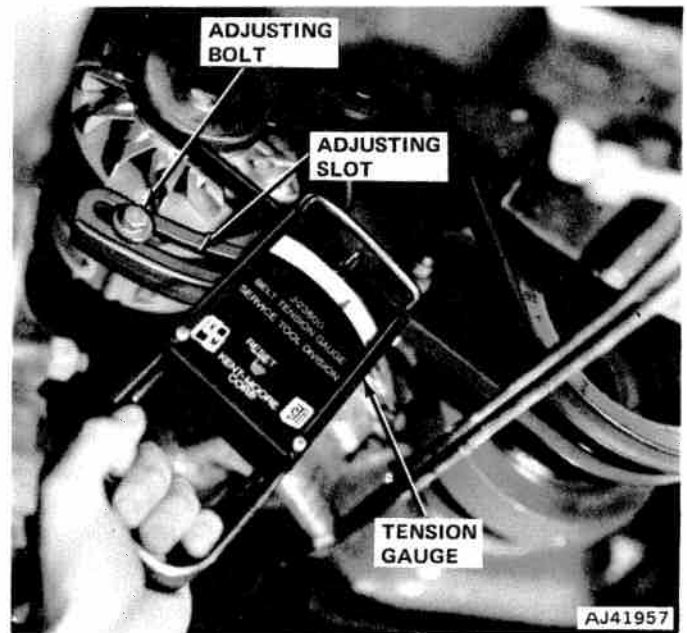

Fig. 2-11 Checking Fan Drive Belt Tension
- (4) Check belt tension using Tension Gauge J-23600 (fig. 2-11).
- (5) Tighten adjusting bolt to 18 foot-pounds torque and mounting bolts to 28 foot-pounds torque.